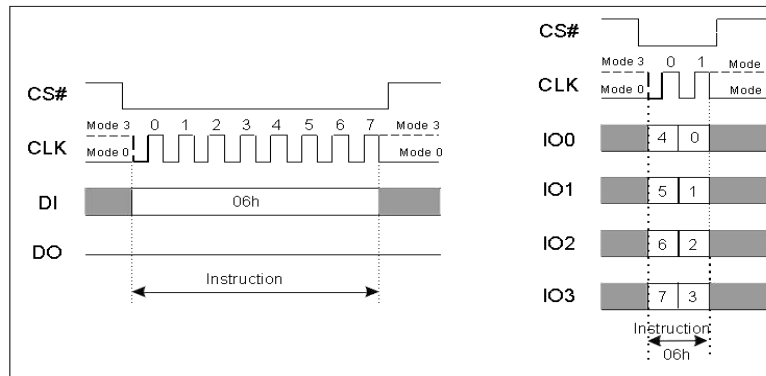

Fig 11-3. Write Enable Instruction (SPI or QPI Mode)
The Write Enable instruction (Fig11-3.) sets the Write Enable Latch (WEL) bit in the Status Register to a 1. The WEL bit must be set prior to every Page Program, Sector Erase, Block Erase, Chip Erase and Write Status Register instruction. The Write Enable instruction is entered by driving CS# low, shifting the instruction code "06h" into the Data Input (DI) pin on the rising edge of CLK, and then driving CS# high.